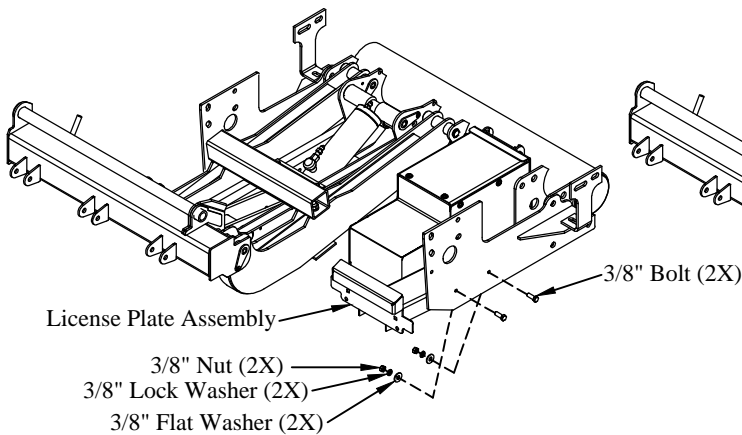

Figure 10: License plate assembly position.
8. **Install** (4) M12 x 110mm bolts, (8) flat washers, (4) lock washers, and (4) nuts per side in the existing holes near the front of the lift (rear of truck). Do Not tighten at this time.
10. **Attach** the license plate assembly to the bracket plate using the supplied 3/8" bolts, washers, and nuts (Figure 10).